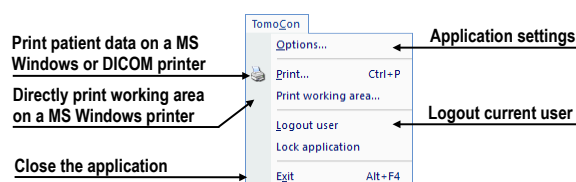

Figure 33 – TomoCon menu
- **TomoCon** – defining the application settings, printing setup, image data printing (printing on a Microsoft Windows printer or DICOM printer), logging into and out of the application and closing TomoCon (see Figure 33).